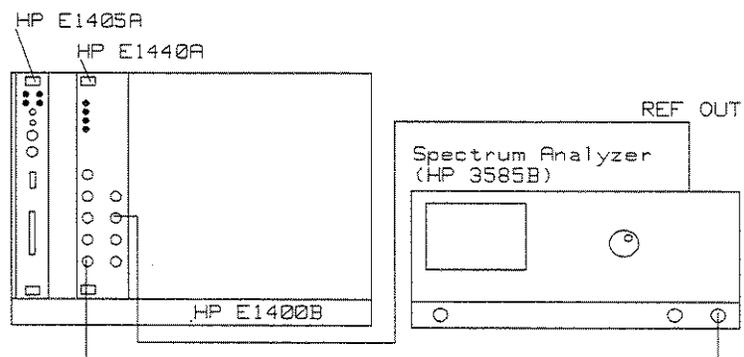

Figure C-4. Mixer Spurious Test Set-Up
1. Connect the HP E1440A signal output to the spectrum analyzer  $50\Omega$  (RF) input and the HP E1440A REF IN to the analyzer 10 MHz reference output, as shown in Figure C-4.